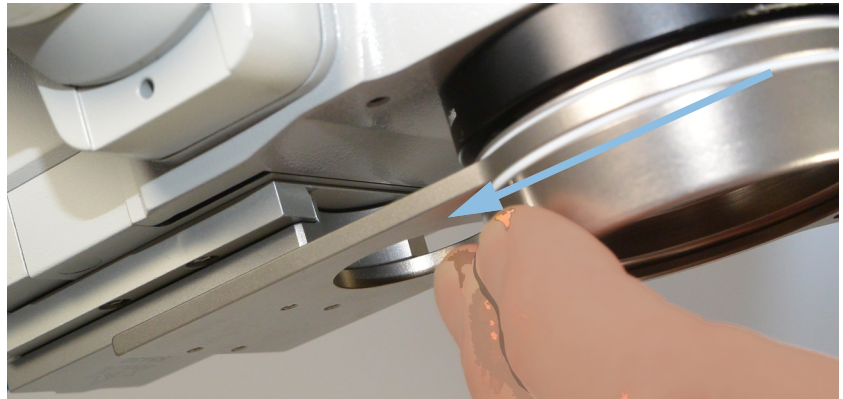

Fig. 9-11: Pull off the adaptor plate
- Pull the adaptor plate out of the dovetail mount, *fig. 9-11, page 28.*